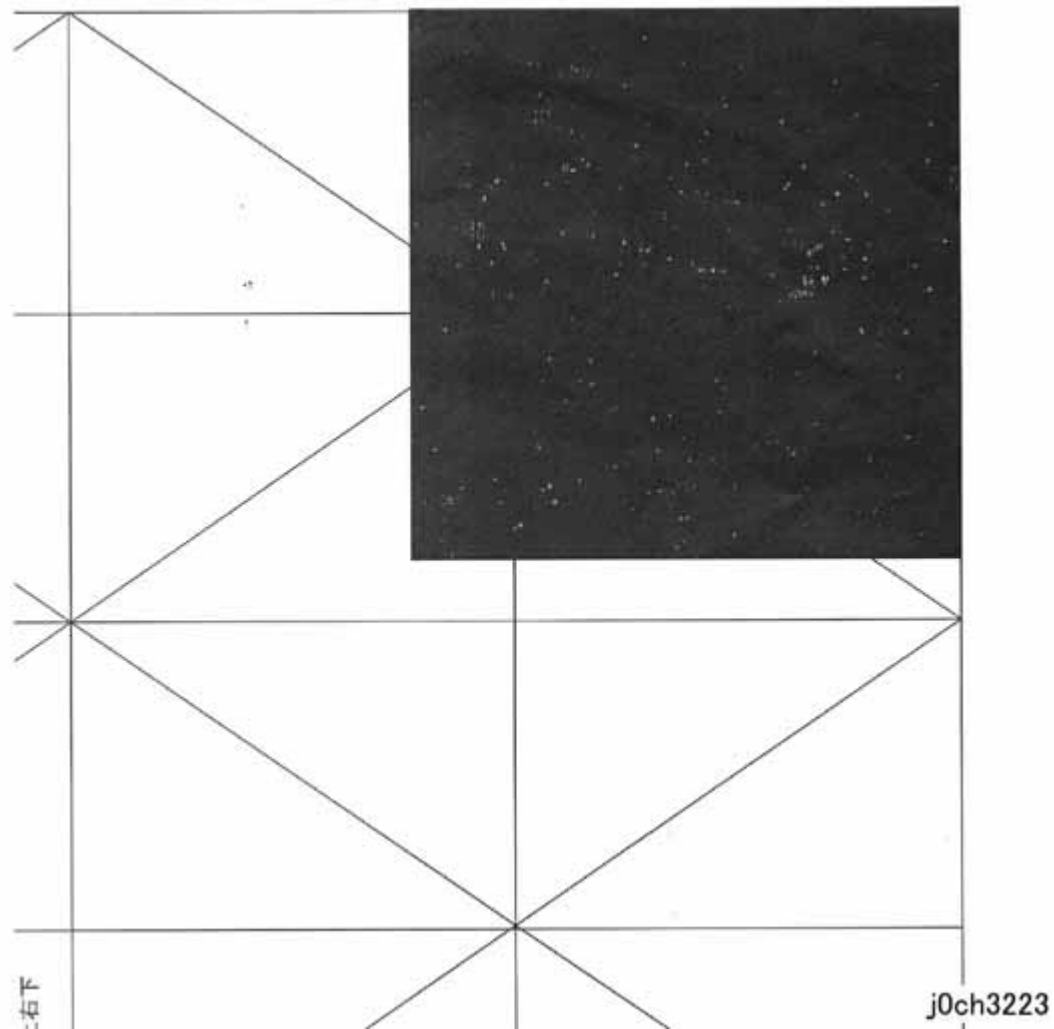

Figure 7 White Spots
- White Spots (Irregular) (Figure 7)